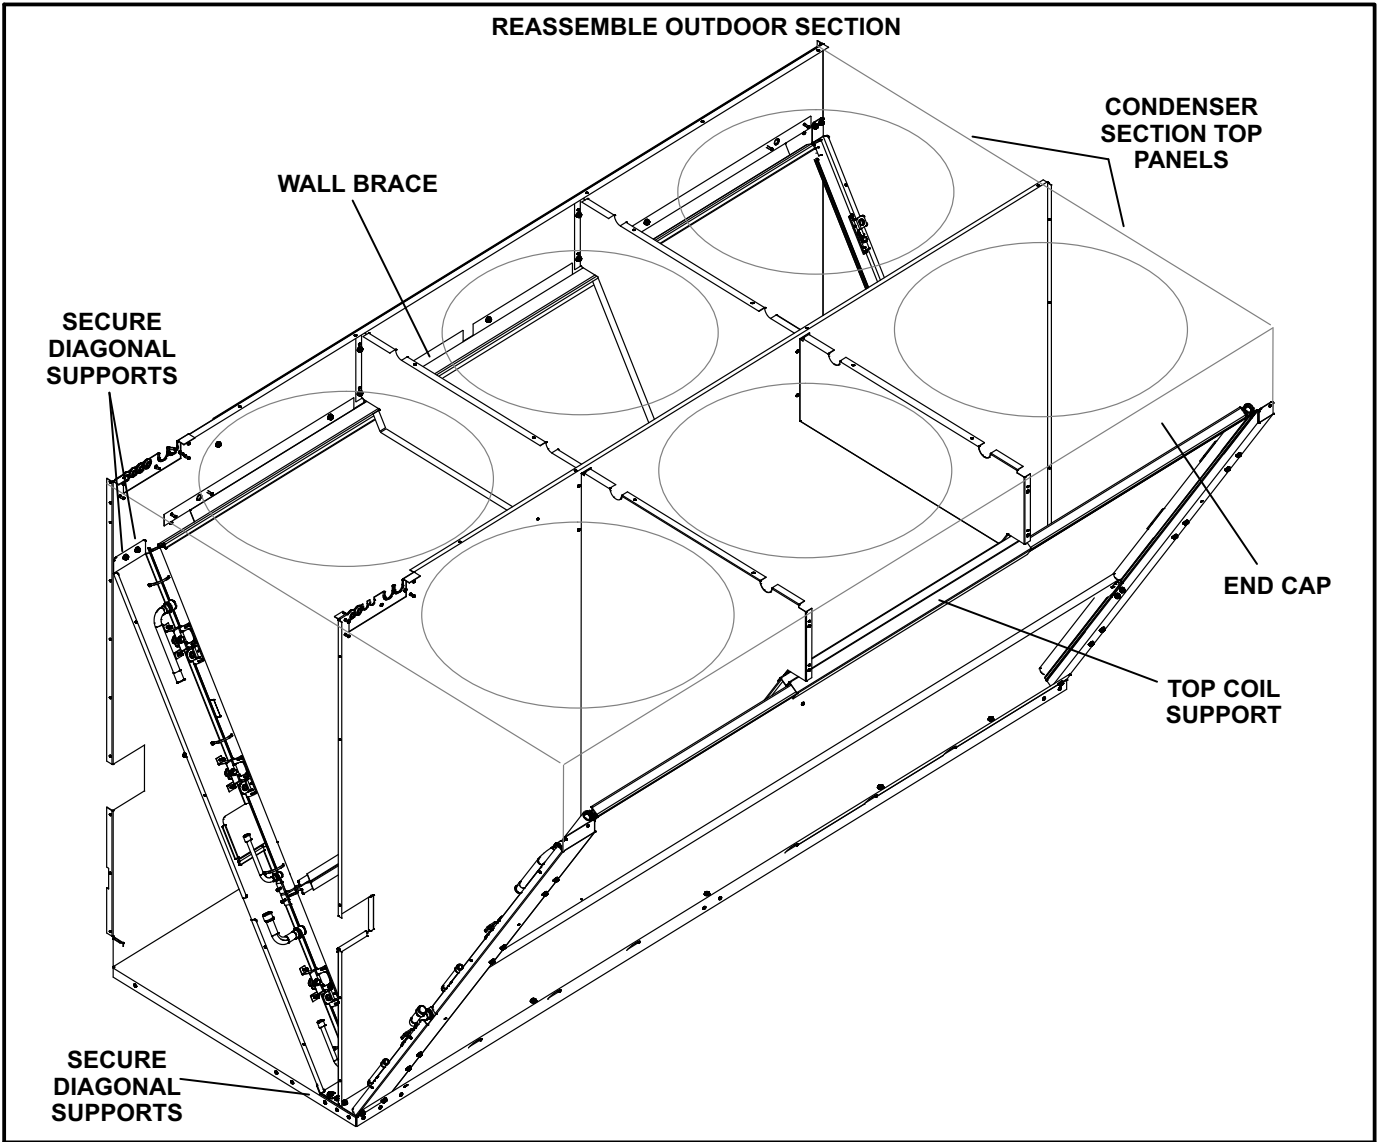

FIGURE 11
- 6- Install the coil assemblies into the unit. Secure the diagonal support brackets to the unit. See figure 11.